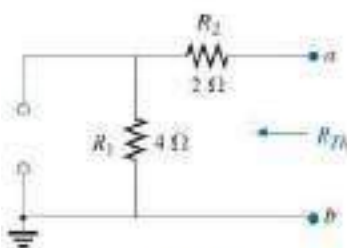

FIG. 9.34
Step 3: See Fig. 9.34. The current source has been replaced with an open-circuit equivalent and the resistance determined between terminals *a* and *b*.